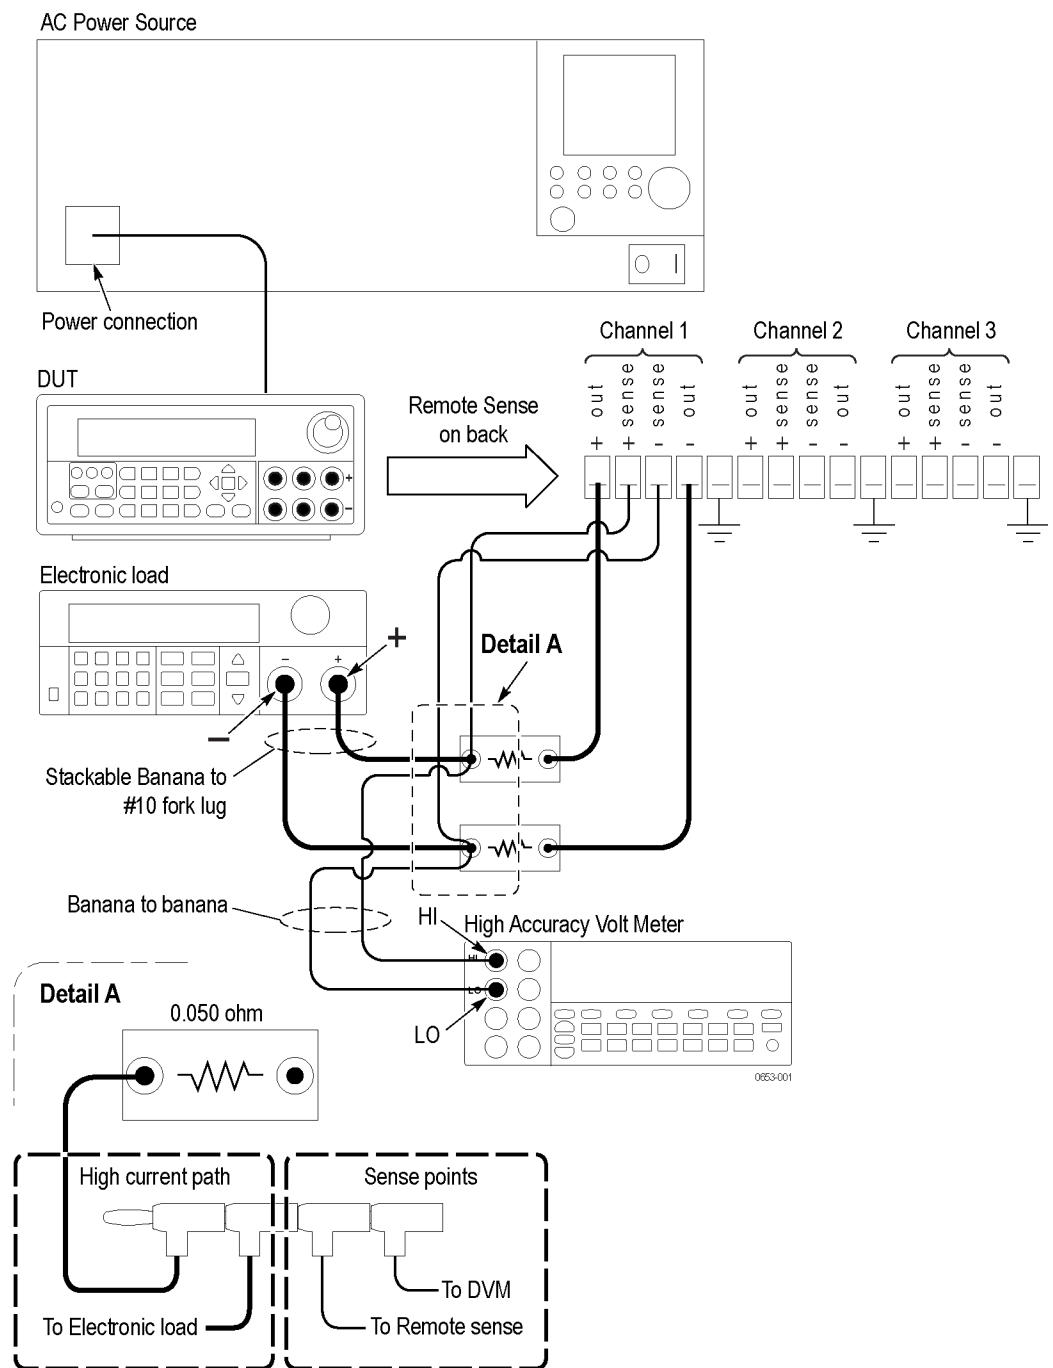

Figure 4: DC voltage accuracy with remote sense test setup. The channel 1 test setup is shown.
3. Set up the equipment as shown. (See Figure 4.)